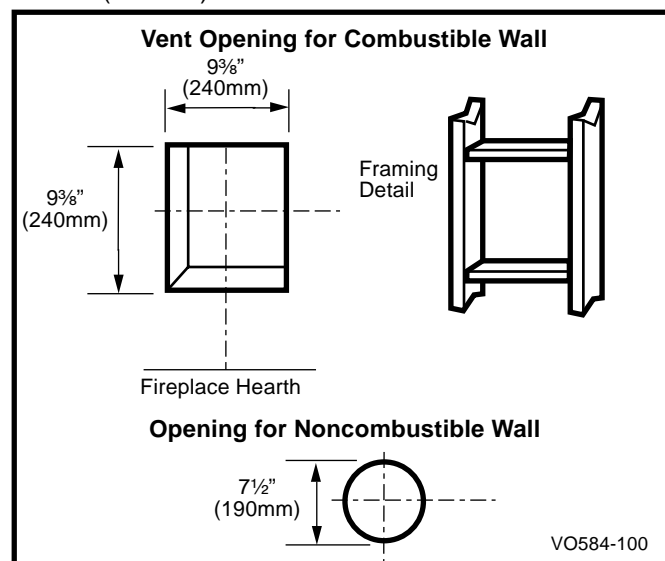

Fig. 17 Locate vent opening on wall.
Locate vent opening on the wall. It may be necessary to first position the fireplace and measure to obtain hole location. Depending on whether the wall is combustible or noncombustible, cut opening to size. (Fig. 17)
**Combustible Walls:** (Fig. 17) Cut a 9 $\frac{3}{8}$ "H x 9 $\frac{3}{8}$ "W (240 x 240mm) hole through the exterior wall and frame as shown.
**Noncombustible Walls:** (Fig. 17) Hole opening must be 7 $\frac{1}{2}$ " (190mm) in diameter.
1. Establish vent hole through the wall. (Fig. 17)